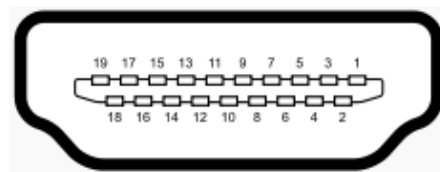

Figure 3-30: HDMI Connectors
- CN Location:** See Figure 3-30